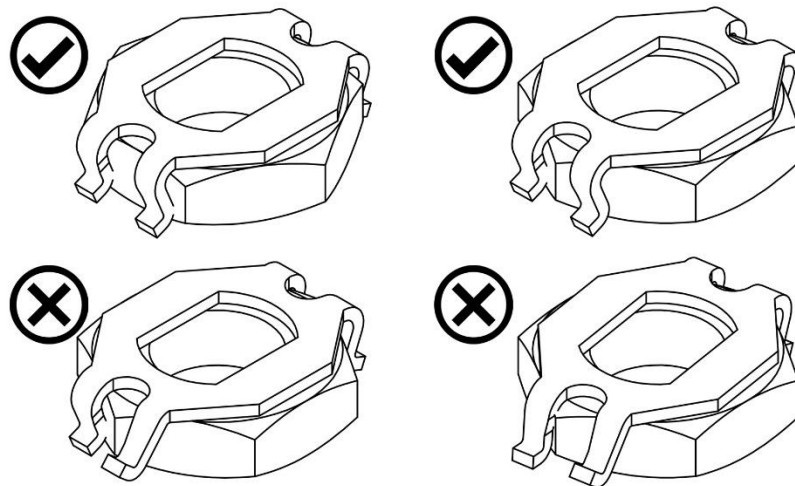

Figure 2 Fitting the locking clip
- f) Fit the locking clip correctly as shown in Figure 2.